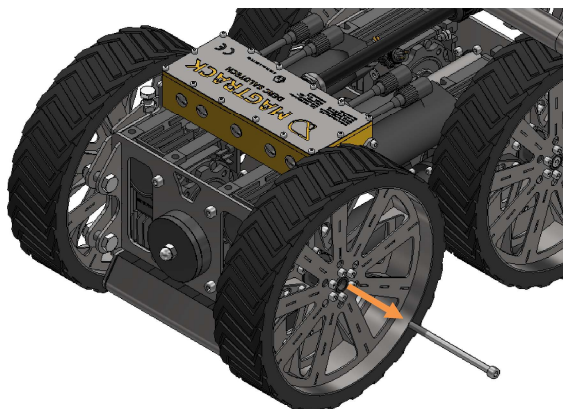

Figure 45 Detaching a wheel
3. Remove the bolt and take the wheel including axle out of the gear box. This can be seen in Figure 45